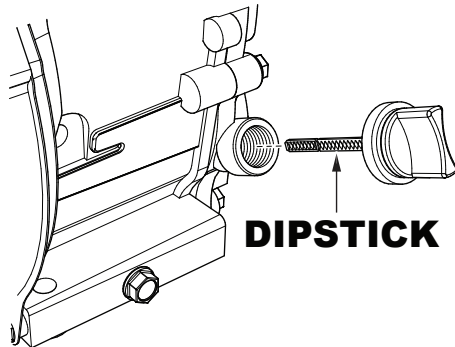

Figure 20. Engine Oil Dipstick
2. Remove the dipstick (Figure 20) from the engine oil filler hole and wipe it clean.